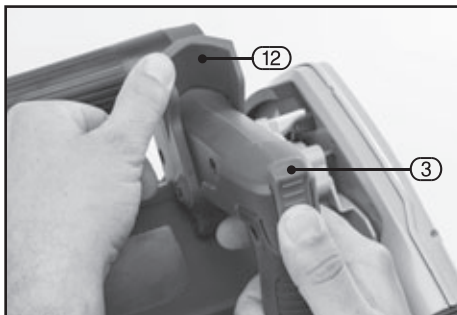

FIG.1
8.1 BLADE REPLACEMENT AND INSTALLATION – FIGS.1 – 3
- Push the locking lever (12) forward. Release the switch lock (3). The motor unit will lock into place.
- Push the spindle lock (14) and use the hex key (17) to undo the clamping screw anti-clockwise.
- Remove the washer from the saw blade (11).
- Install the new blade (11) in the respective reverse order.